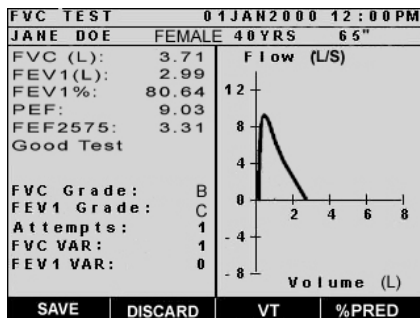

Figure 21: FVC Test Complete
6. Upon completion of the test, the spirometer will display the flow-volume curve, measured values, acceptability messages, quality grades, number of maneuvers performed, and FVC and FEV1 variability depending on the options enabled during system configuration (Figure 21). To view the volume-time curve, press the *VT* soft key. To view the results as a percentage of the predicted values, press the *%PRED* soft key.